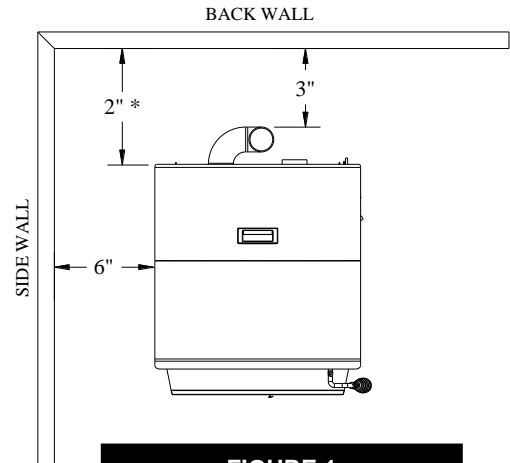

FIGURE 1
The ECO-45 has been tested and listed for installation in residential, mobile home.(refer figure 1 & 2)
1. Position stove, adhering to clearances shown in Figures 1 & 2.
5. Position the stove, adhering to the clearances in Figures 1 & 2.
1. Position the stove, adhering to the clearances in Figures 1 & 2. Mark the center of the hole where the pipe is to pierce the masonry chimney.